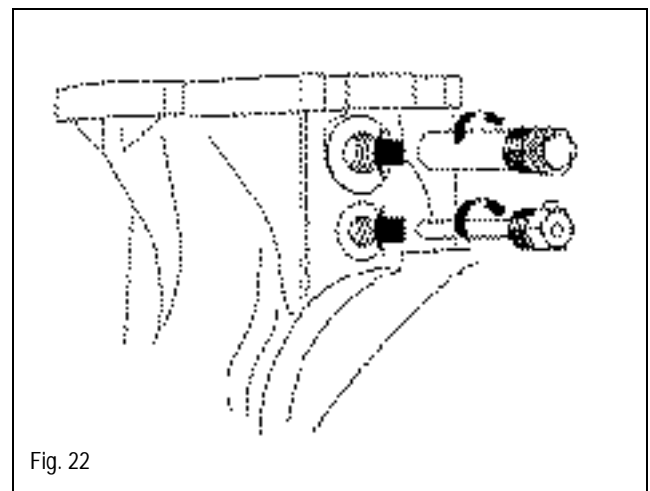

Fig. 22
- Install 3/4" well in upper tapping, install 1/2" well in lower tapping in supply connection. (Fig. 22).